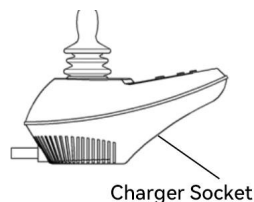
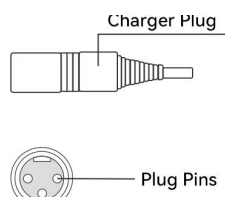

Figure 13
Figure 14
4.3.1 Only use the dedicated charger supplied with this wheelchair to ensure safety. Connect the three-prong metal plug of the charger to the three-hole interface on the controller, observing correct orientation. For convenience, the battery pack can be removed and charged separately. (See Fig. 13, Fig. 14)